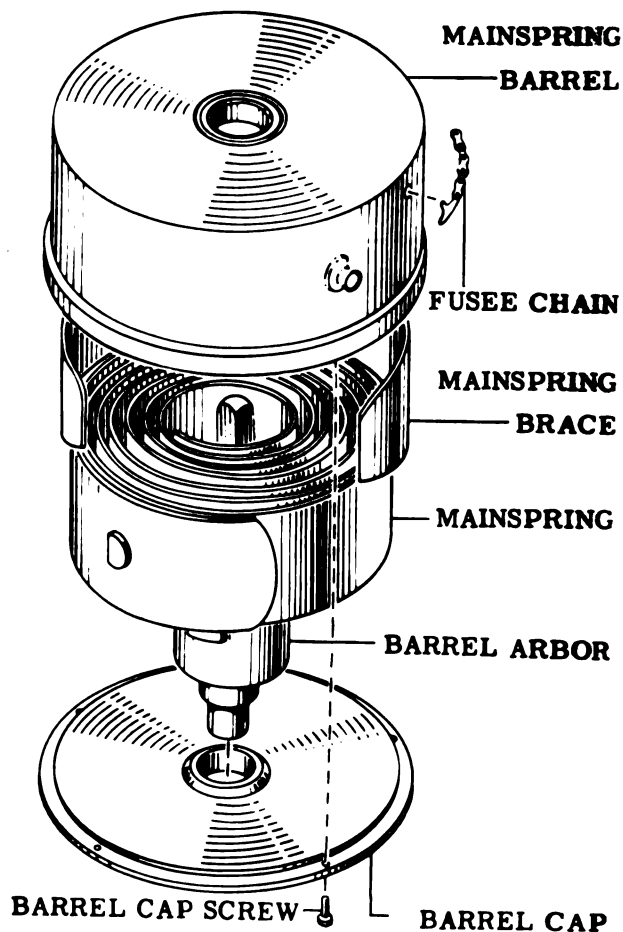

Figure 26
34. Remove barrel cap screws. See Fig. 26.
35. Remove barrel cap, tapping the end of the barrel arbor, if necessary. See Fig. 26.
36. Remove barrel arbor. See Fig. 26.
37. Remove mainspring (see Fig. 26), using the mainspring winder and restraining ring. For convenience and safety, use Tools Nos. 56 and 57.